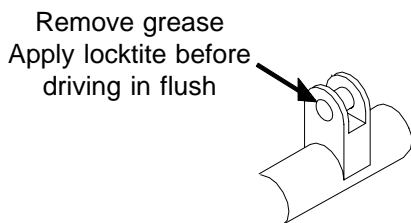

Figure 3
11. Wipe any excess grease off of the outside of the pin protruding out the left side and apply one drop of locktite supplied with your replacement gas spring to this area. (*See Figure 3*). **Not much is required!** After applying the locktite, finish driving the pin flush.